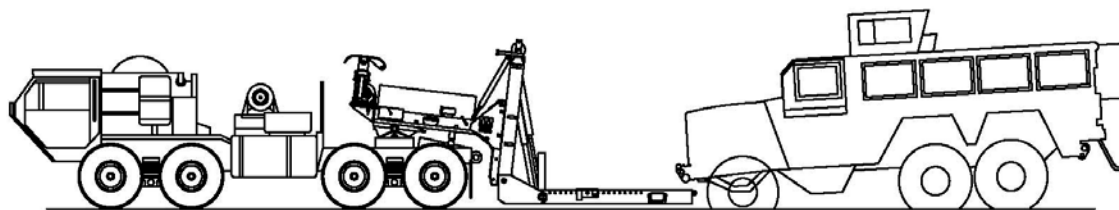

Figure 1 – Prepared in front of disabled vehicle
1. Position prime mover with the FWTRD “prepared” for towing (WP 0008 00) in front of disabled vehicle. (figure 1)